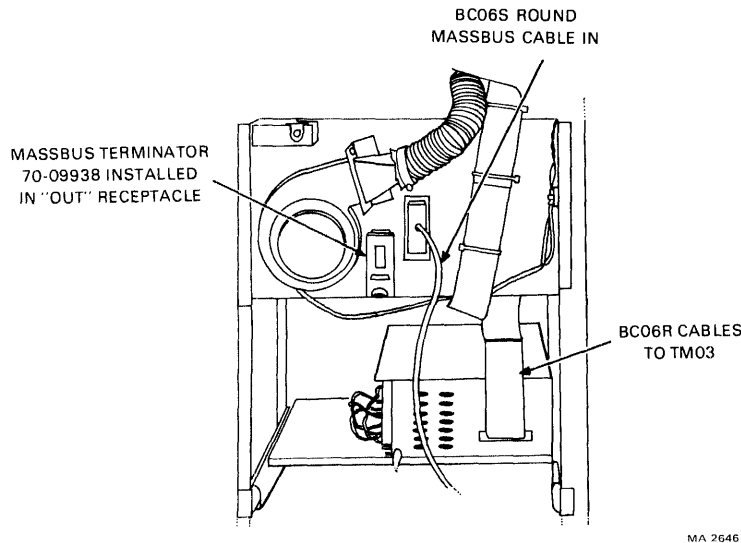

Figure 2-9 Massbus Connection to TU77 Master Transport
7. Connect the BC06S round Massbus cable to the “in” connector on the rear of the TU77 (Figure 2-9).
7. Connect the BC06S round Massbus cable to the in connector on the rear of the master TU77 (Figure 2-9).